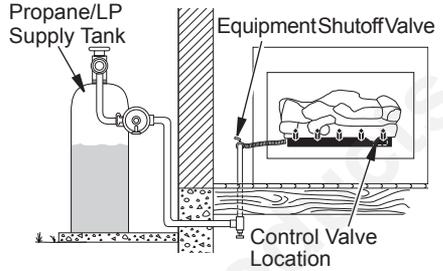
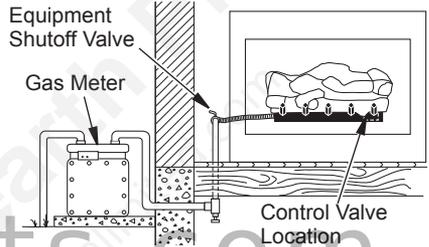

Figure 15 - Checking Gas Joints (Propane/LP Only)
Figure 16 - Checking Gas Joints (Natural Gas Only)
1. Close equipment shutoff valve (see Figure 15).
3. Check all joints from gas meter to equipment shutoff valve for natural gas or propane/LP supply to equipment shutoff valve for propane/LP (see Figure 15 or Figure 16). Apply noncorrosive leak detection fluid to all joints. Bubbles forming show a leak.
4. Check all joints from gas meter to equipment shutoff valve for natural gas or propane/LP supply to equipment shutoff valve for propane/LP (see Figure 15, or Figure 16). Apply noncorrosive leak detection fluid to all joints. Bubbles forming show a leak.